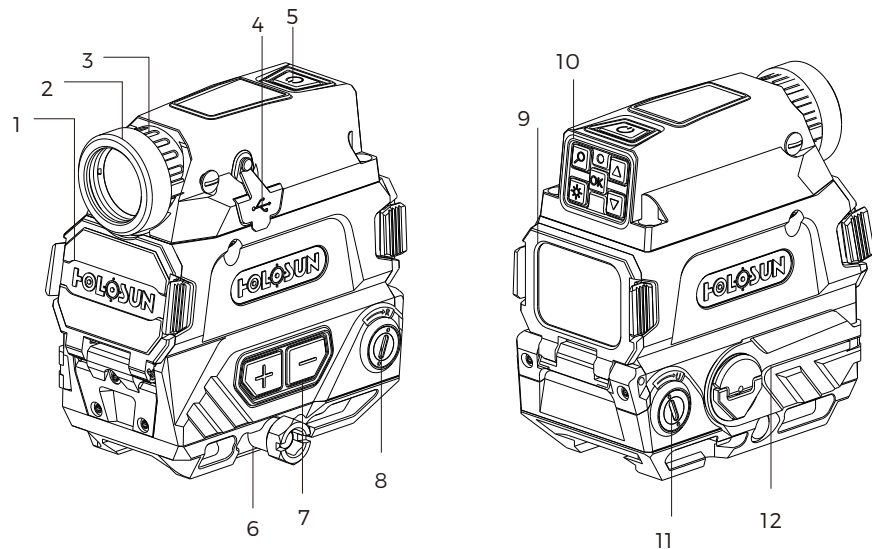

Figure 1. Introduction of components
2. Introduction of DRS-NV Components (figure 1)